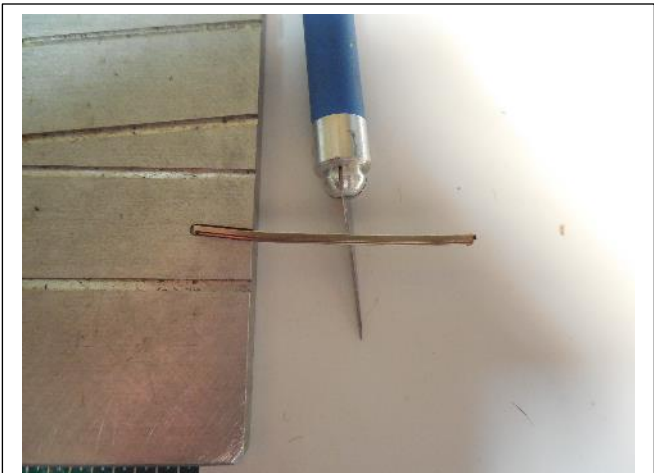
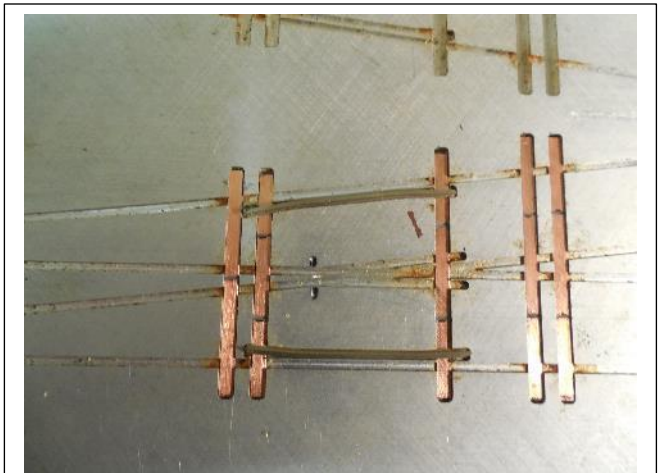

Fig 6 – Cut and bend rail
Fig 7 – Test fit guard rails in fixture
2. Guard Rails. Using fixture grooves for guards, cut and bend rail for guard rails (fig 6), test fit (fig 7), and set aside.